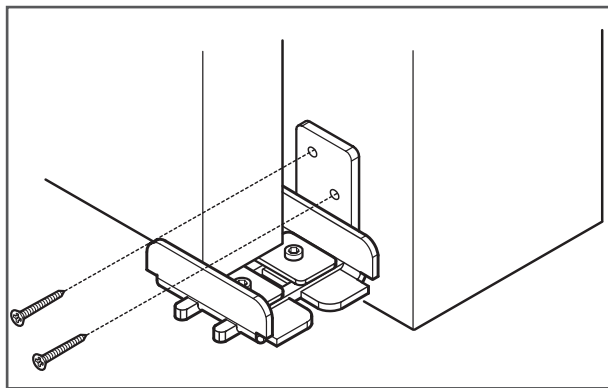

Figure 9
14. Slide the door partially over the U bracket to make sure the bracket is in the correct location (Figure 9). Slide the door back out of the way.